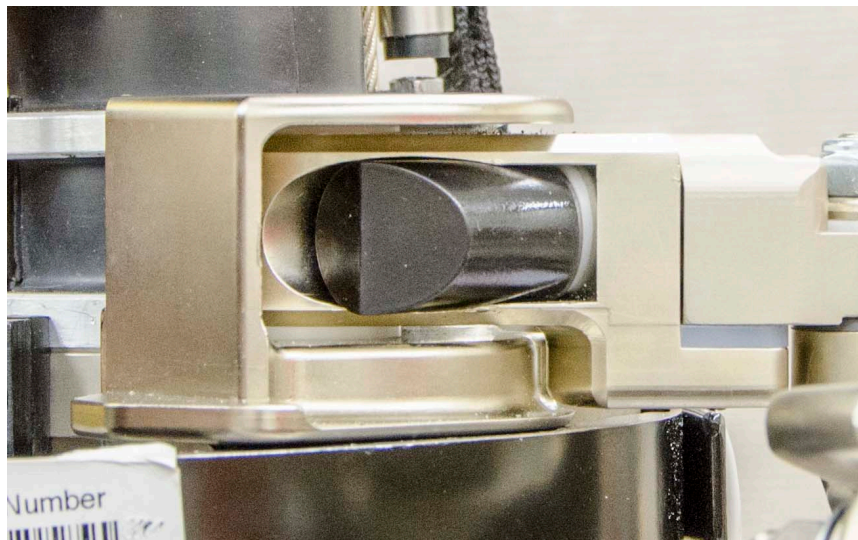

Figure 7-26. Reinstallation of forward ROM buffer
- 7.3.1.7 Reinstall the forward ROM buffer (472-3816) so that the line formed between the two beveled surfaces of the ROM buffer is vertical, and the beveled surface faces away from the body of the shoulder support (472-3814), as shown in Figure 7-26. Repeat for right arm.